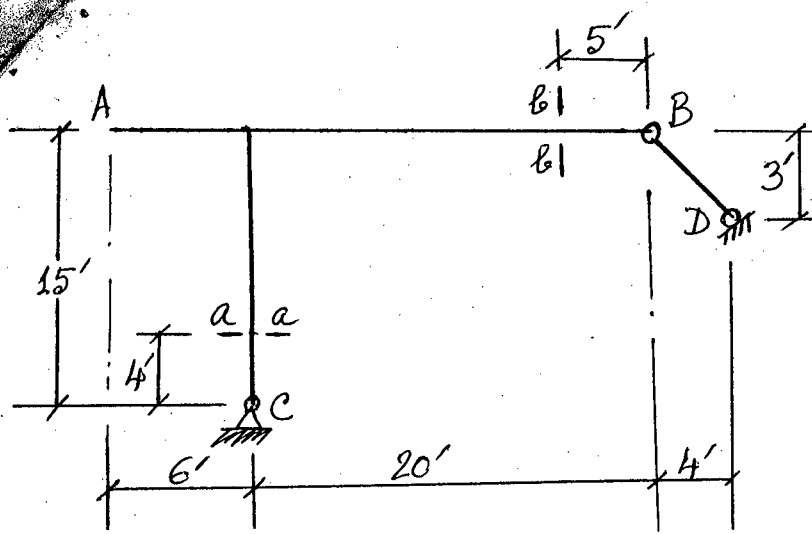
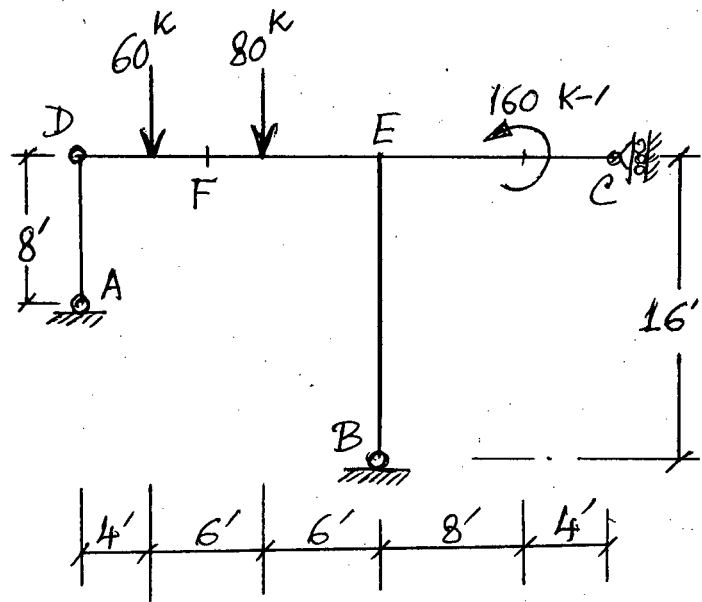

Fig. 6
Fig. 7
8. Draw influence lines for both shear and moment at sections a-a and b-b of the structure shown in Fig. 6. Unit load moves from A to B. (21)
9. Draw axial force, shear force and bending moment diagrams for the structure shown in Fig. 7. Also draw free body diagram of joint E. (21)
5. (a) A simply supported rectangular beam with as span of 20 ft is limited by architectural considerations to a width of 12" and a total depth of 18" as shown in Fig. 6. The beam carries a service DL = 2.2 kip/ft (including self wt of beam) and LL = 1.8 kip/ft. Given $f_s = 20$ ksi; $f'_c = 4$ ksi and $n = 8$. What reinforcement is required for flexural design by WSD method? (20)
- (b) A simply supported rectangular beam with a span of 18 ft supports a uniform live load of 1200 plf and a concentrated dead load of 3000 lb at the middle of the span in addition to its self-wt. With $f'_c = 3000$ psi and $f_s = 20,000$ psi, determine the required cross-section and steel area. (15)
6. (a) Design the stirrups for the beam shown in Fig. 7. Use $f'_c = 3.5$ ksi; $f_y = 60$ ksi. Calculate stirrups with 3 sets of spacing. Show the stirrups in a neat sketch. (22)
- (b) Write down the ACI/BNBC code provisions for beam stirrups (hoops) for Dhaka-moderate seismic risk region. (9)
- (c) Show with neat sketches location of critical section for shear design for different conditions of beam supports. (9)